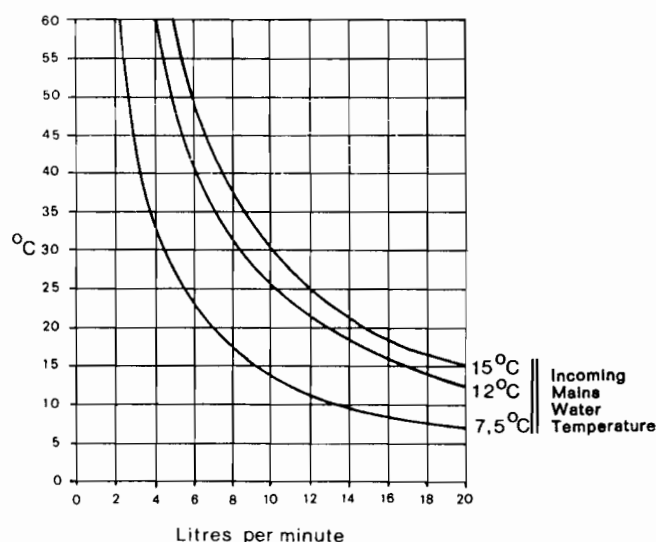

Fig. 3
When turning on the central heating by either Knob A and C, (see users instructions Fig. 3 ; page 1). Through a temporization device, the burner will light at the low rate for two seconds before increasing to full rate. When the temperature set by Knob A is reached, the burner will go out but the pump will continue working at all times unless the boiler control Knob C is switched to domestic water only ; (see controls, page 11) ; or unless a time switch and/or room thermostat are fitted. If a time switch or room thermostat are fitted they must only be connected as described in the instructions, page 10. The heating system has a maximum temperature setting of 85°C. If, for any reason, this temperature is exceeded, the Heating Limit Thermostat (28) will cause the main gas to go off leaving the pilot on. Main gas is automatically restored when the Heat Exchanger has cooled. On domestic water circuit a Hot Water Limit Thermostat (4) operates in the same manner. **The water pressure in the central heating is essential.** In case of deficiency of water a heating water flow/pressure safety valve (30) will switch off the electrical circuit of the burner. The circuit will be restored after filling of the central heating circuit (see page 16). If even higher temperatures occur, **the Overheat Cut-out Device** (18) operates Thermocouple, thereby turning off the appliance completely. Manual operation is then necessary to re-start the boiler. If the Overheat Device operates again, check for defects.